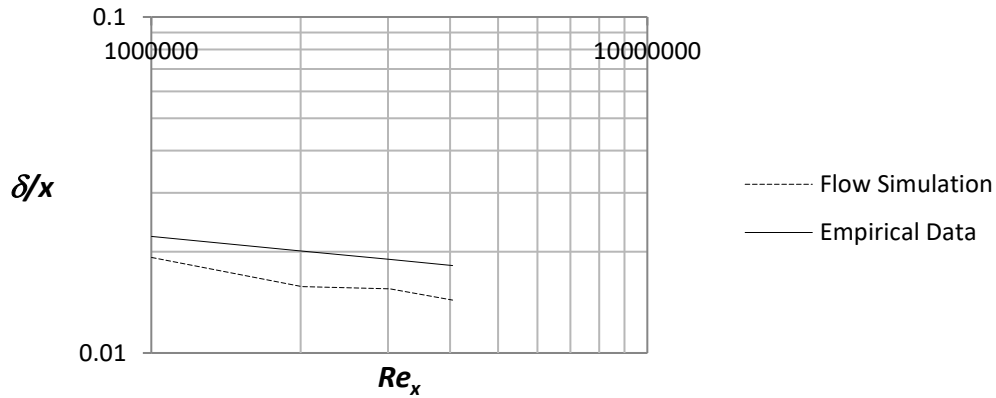

Figure 2.30b) Boundary layer thickness for turbulent boundary layers at $Re_x = 10^6 - 4.04 \cdot 10^6$
Place the file “**graph 2.30b)**” on the desktop. Repeat step **24** and choose the sketch **x = 0.2, 0.4, 0.6, 0.8 m** and check the box for **Velocity (X)**. Rename the xy-plot to **Turbulent Boundary Layer Thickness**. An Excel file will open with a graph of the boundary layer thickness versus the Reynolds number, see figure 2.30b).